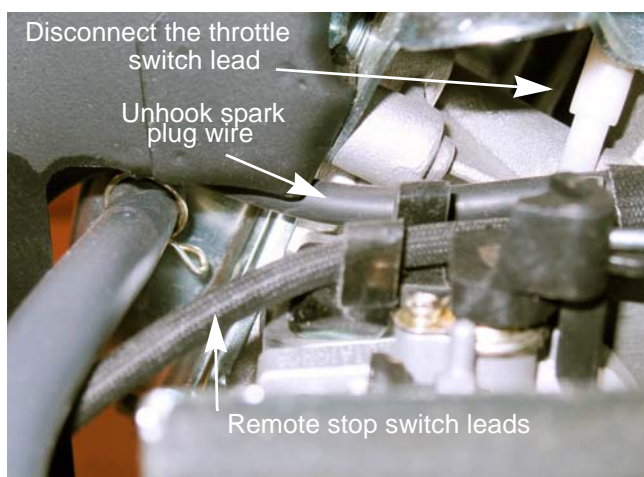

Figure 7.12
5. Unhook the spark plug wire from the clip in the carburetor insulator. See Figure 7.12.